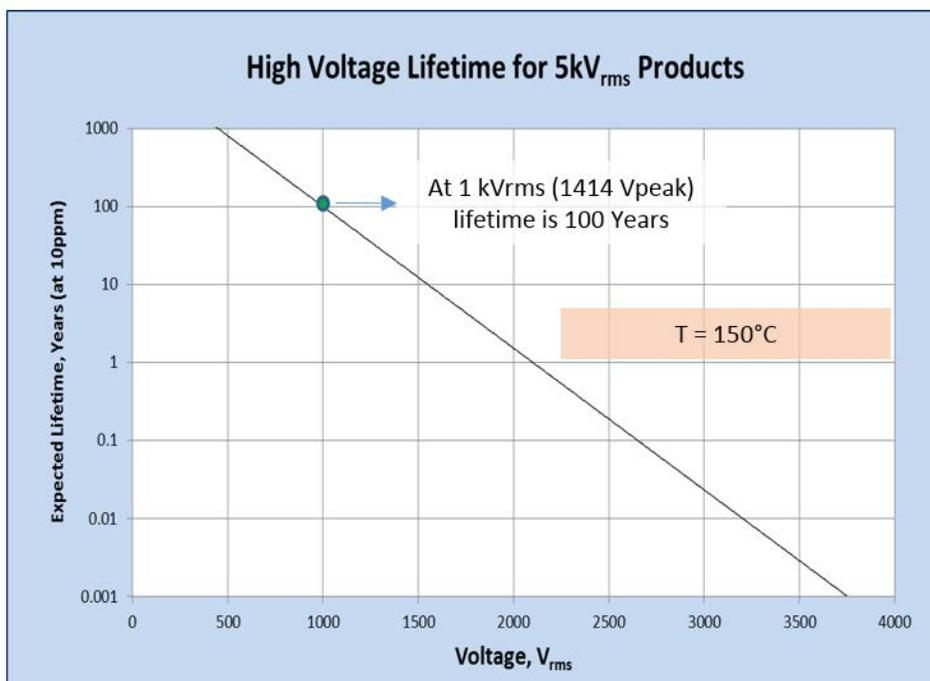

Figure 2.3. Si86xxxD Time-Dependent Dielectric Breakdown
- Added Figure 2.3 Si86xxxD Time-Dependent Dielectric Breakdown on page 5.